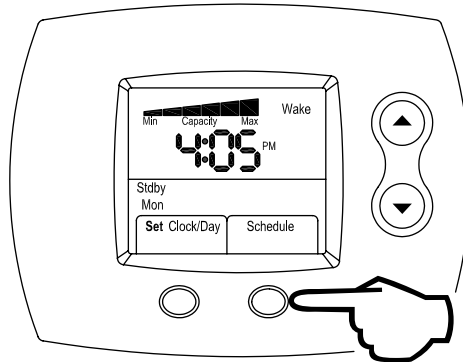

Figure 75
Step 1: From the Home screen, press the **RIGHT** (Schedule) button, as shown in Figure 75.